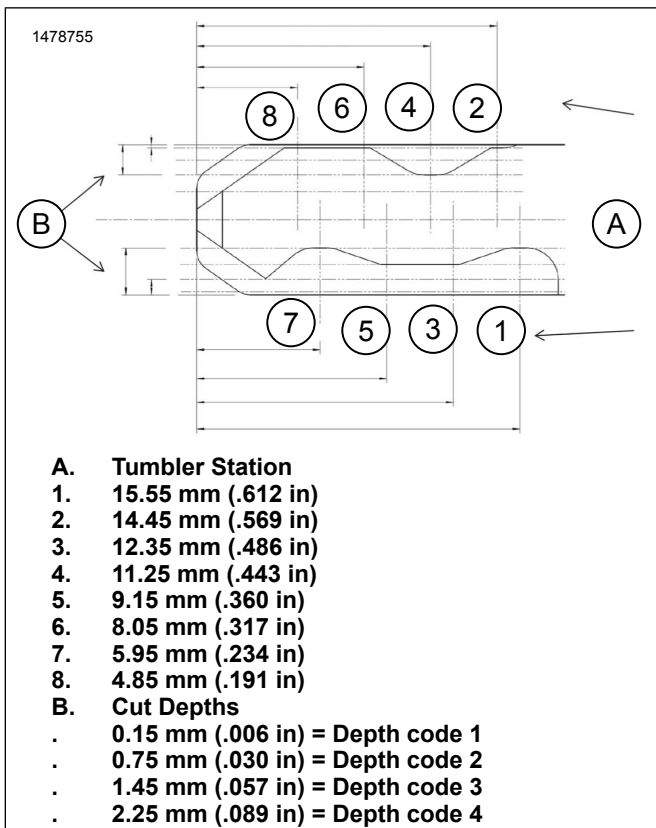

Figure 4. Key Code Diagram
1. See Figure 4. On Original Equipment (OE) vehicle key, determine cut depth at each key station.
3. Refer to Table 3. Write key depth codes from Figure 4 based on cut depths measured.